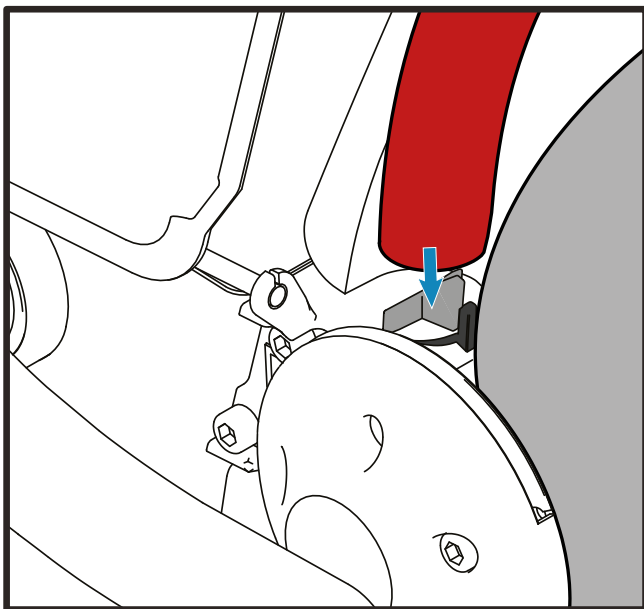

Figure 6. Flywheel Guard Placement
2. Place the open end of the flywheel guard over the mounting stud located on the frame of the cycle, refer to Figure 6.